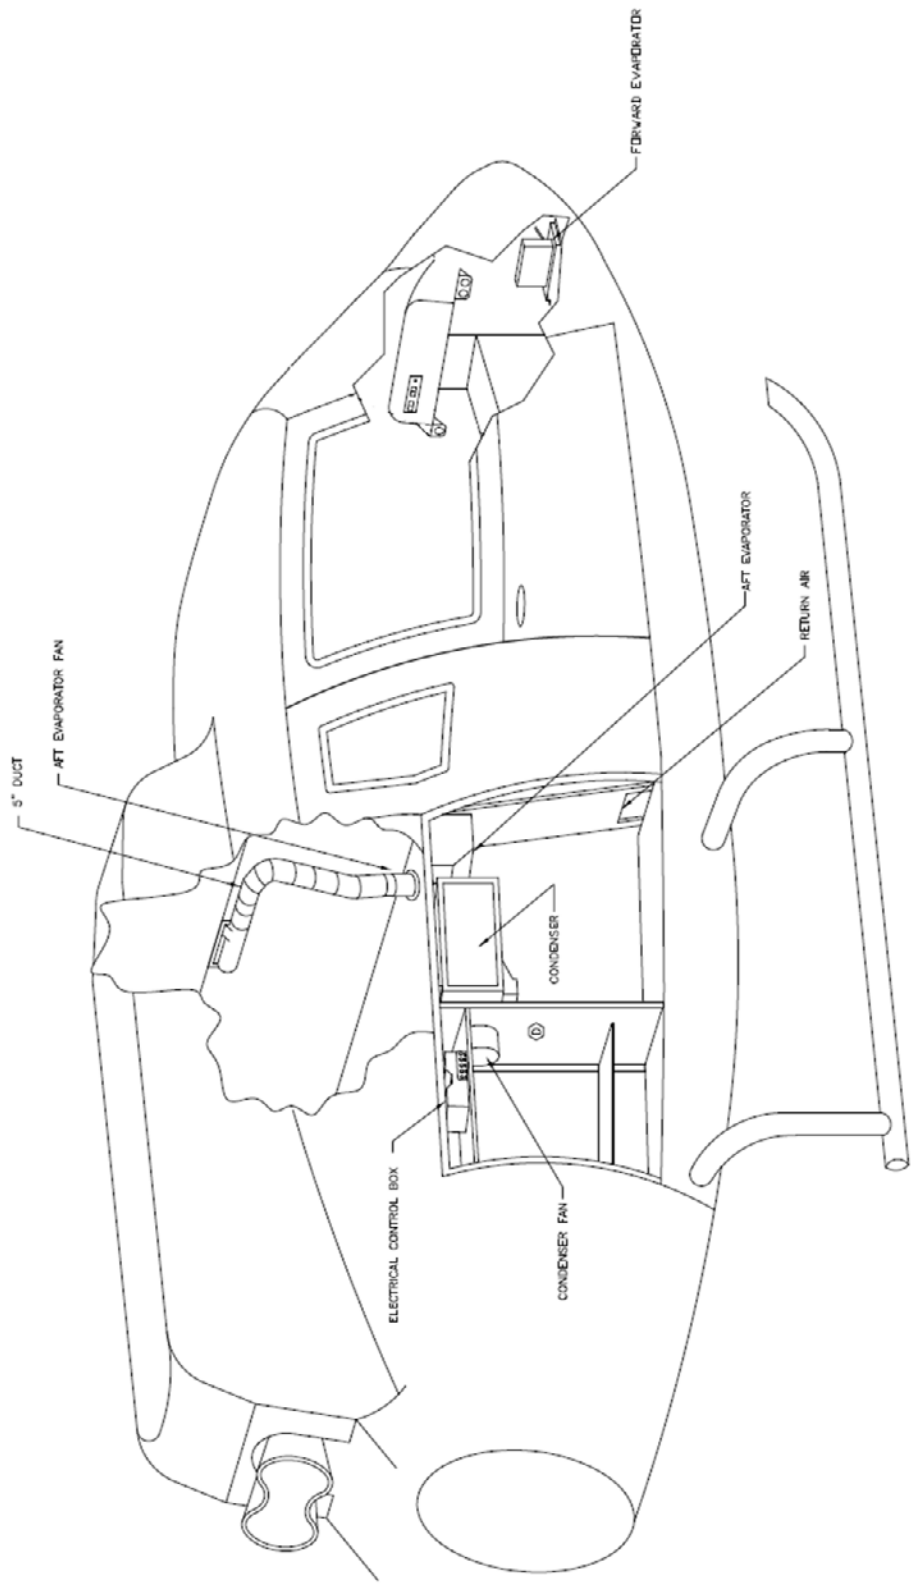
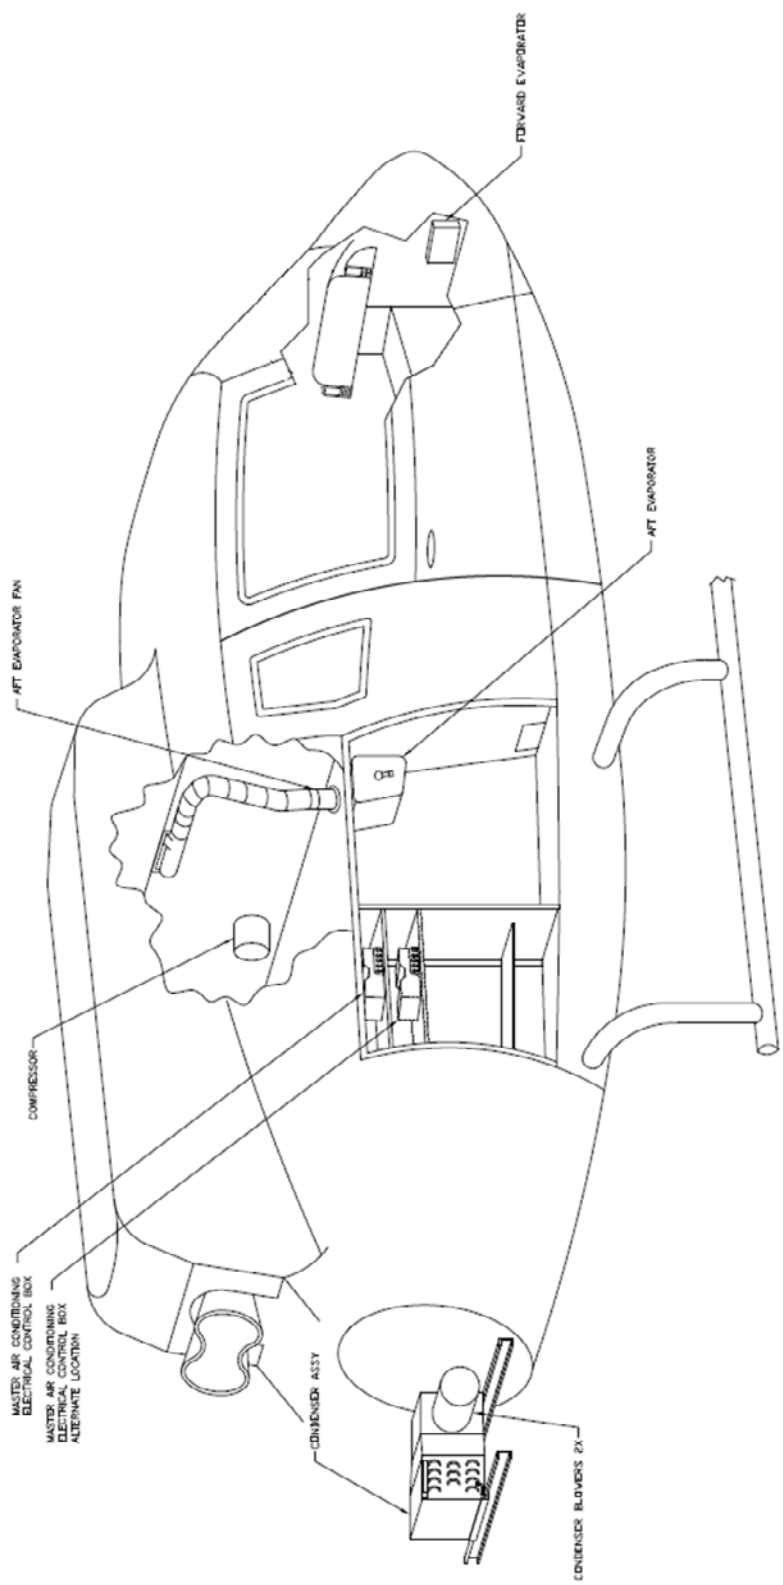

Figure 21-01: Equipment Locations for Air Conditioning System with the -011 Configuration (Side Mounted Condenser)
Figure 21-02: Equipment Locations for Air Conditioning System with the -031 Configuration (Aft Mounted Condenser)
- **Condenser-** The condenser is located in one of two positions depending on kit part number (Ref. table 21.1). The aft mounted condenser (Ref. figure 21-01) is mounted in the tail boom mounted 5 in. above the baggage floor. The side mounted condenser is located in the right baggage compartment (Ref. figure 21-02). The EC-130 condenser is only located in the aft mounted configuration. The aft mounted condenser assembly has two blower motors, whereas the side mounted condenser assembly only has one blower motor.
| 350-00-011-HP  | Side Mounted Condenser (Ref Figure 21-01)        |
| 350-00-031-HP  | Aft Mounted Condenser (Ref Figure 21-02)         |
| 130-00-031-HP*   | Aft Mounted Condenser (Ref Figure 21-02) |